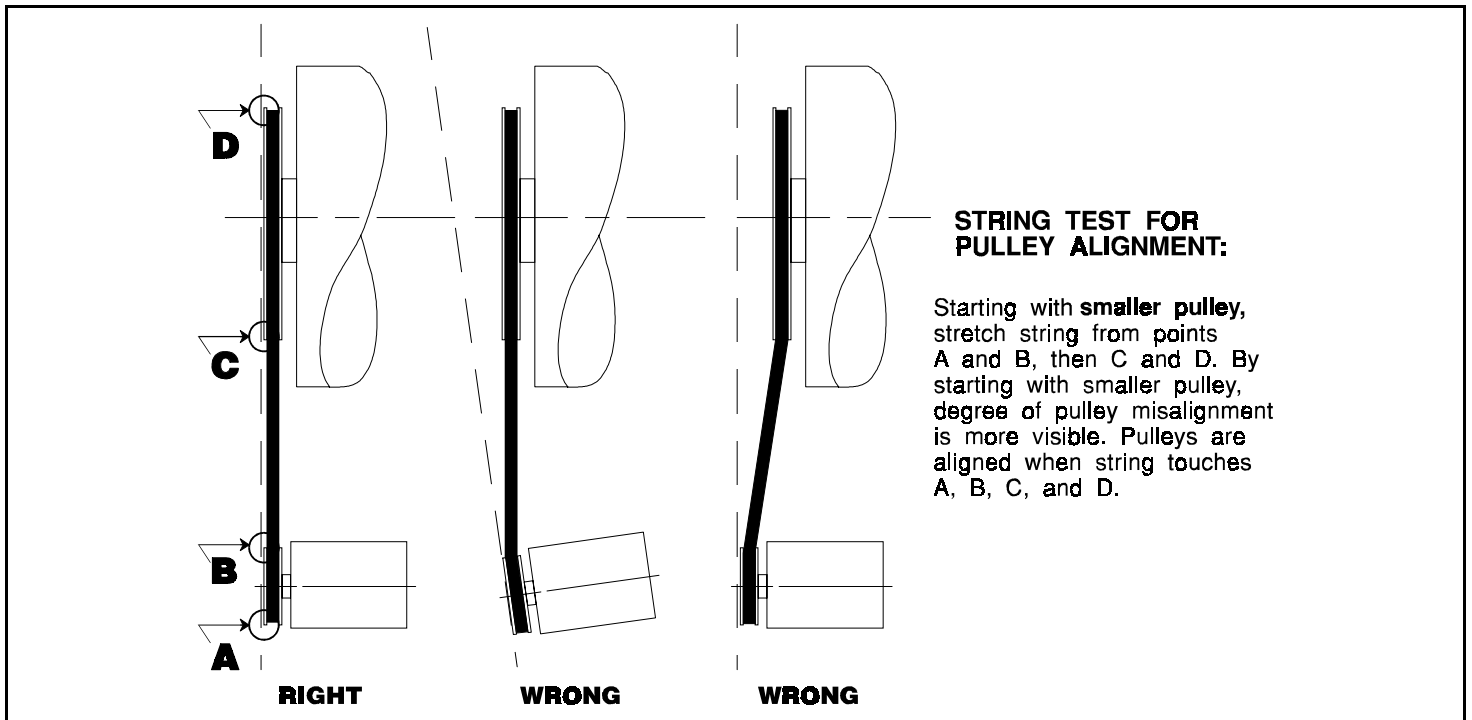

FIGURE 6 (MSSM0115AE)
2. If replacing the drive pulley, see FIGURES 6 and 7 to align the pulley and set the belt tension. Tighten the set-screw in the pulley bushing.
See the “BASKET DRIVE MOTOR BASE ASSEMBLY . . .” drawings in this section for drive motor mounting. When replacing either drive pulley, the drive belt, or drive motor, the pulleys must be properly aligned and adjusted as shown in FIGURES 6 and 7.